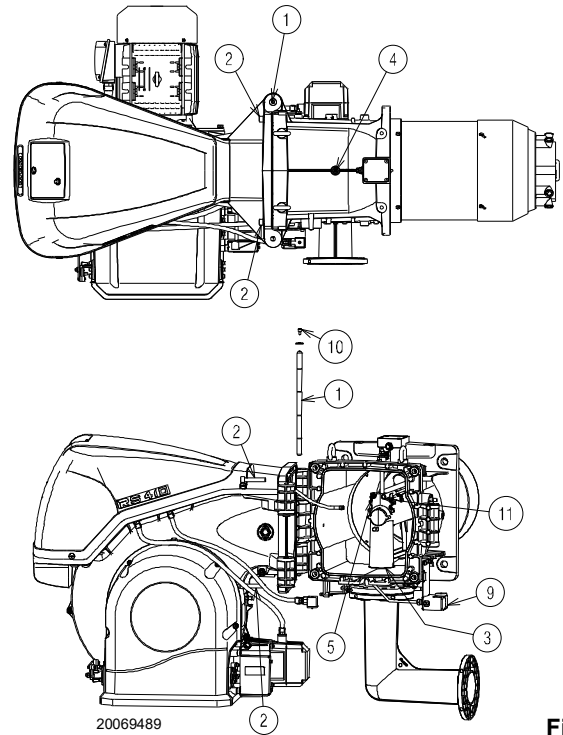

Fig. 13
The burner leaves the factory set for opening to the right, therefore maintaining the pin 1)(Fig. 13) in its housing.
- C fully open the burner as in Fig. 13;
To open the burner from the opposite side, before removing the pin 1)(Fig. 13), make sure that the 4 screws 2) are tight.
Disconnect the socket 9)(Fig. 13) of the maximum gas pressure switch, then proceed as described above at point B).